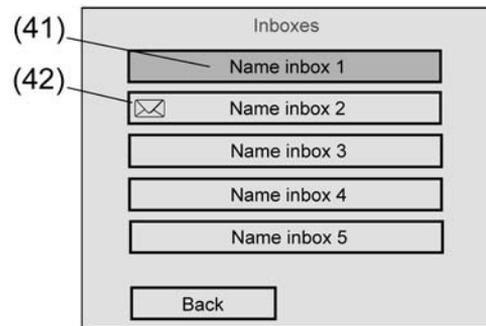

Figure 39: System page for mailboxes
The panel automatically transmits a "0" telegram about mailbox objects onto the bus, as soon as the panel operator opens a mailbox via the "Mailboxes" system page (Figure 39), and thus displays the contents.
The operator of the panel can display the contents of their mailboxes on the device display at any time and thus read the e-mail messages. To do this, they must open the "Mailboxes" system page (Figure 39). It is possible to jump to this page by opening the page using a function button.
- i** Newly arrived e-mails are not signalled on the screen for as long as the inbox display page is shown or Read mode is active. New messages are only visible on the screen with the "Letter icon" (Figure 39) when the inbox display page is exited. The newly arrived messages can be read the next time the display page is opened. Irrespective of the signalling of new e-mails on the panel screen, it is possible to display newly arrived messages using the "New message" communication objects at any time.